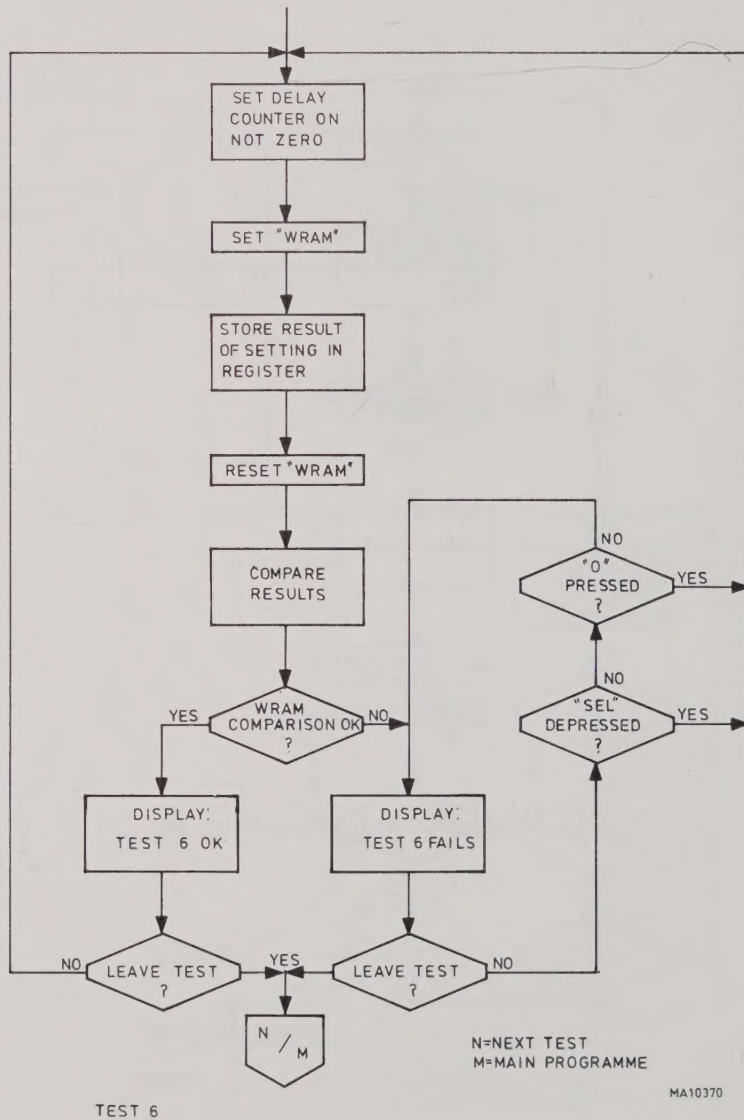

Fig. 5. Flow chart of test 5
- Fig. 5. Flow chart of test 6
2.2.4. Test 6. Signals for data input control. See fig. 5.